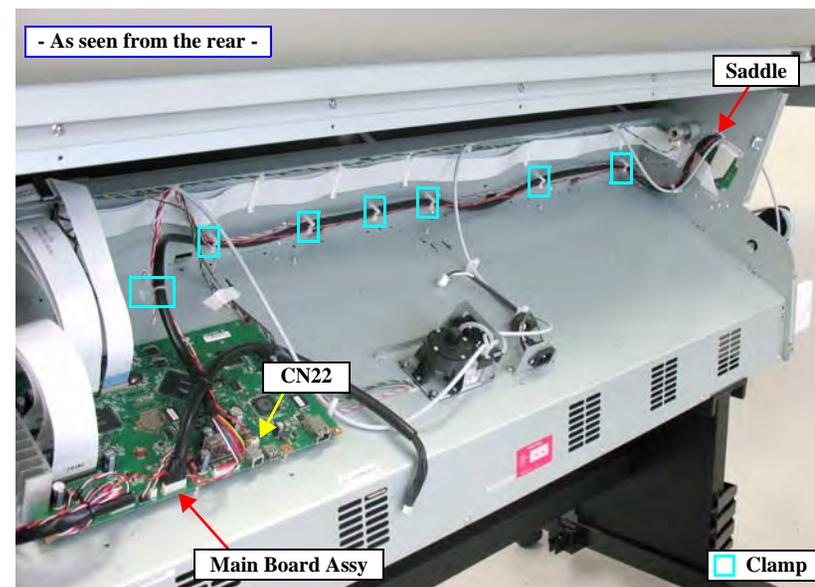

Figure 4-39. Releasing the harnesses
9. Release the cables from the seven clamps and the saddle. *See Figure 4-39.*